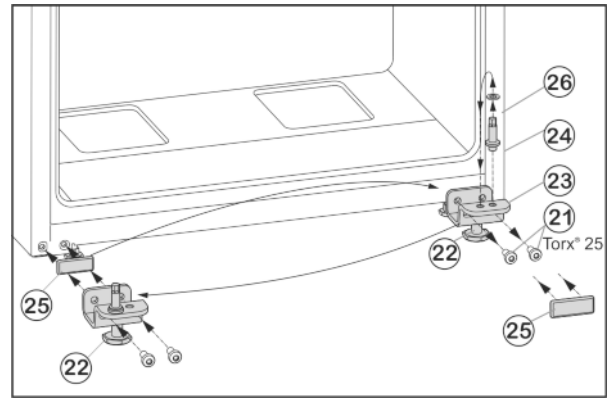

Fig. 6
- ▶ Unscrew fastening screws Fig. 6 (21).
- ▶ Remove the lower bearing block Fig. 6 (23), complete with bearing bolt Fig. 6 (24), washer Fig. 6 (26) and adjustable foot Fig. 6 (22).
- ▶ Unscrew the bearing bolt Fig. 6 (24), complete with washer Fig. 6 (26), re-locate it into the mounting hole on the opposite side of the bearing block and tighten again.
- ▶ Carefully remove the cover plate Fig. 6 (25) and re-locate it to the other side.
- ▶ Fasten the lower bearing block Fig. 6 (23), complete with bearing bolt Fig. 6 (24), washer Fig. 6 (26) and adjustable foot Fig. 6 (22) to the new hinge side, with the help of a cordless screwdriver if necessary, and **tighten (with 4 Nm)** once again.
- ▶ Lower the bottom door onto the bearing bolt Fig. 6 (24).
- ▶ Insert the centre bearing block (13) turned through 180° into the lower door and fasten firmly (**with 4 Nm**) to the new hinge side with the fastening screws (2 x Torx® 25).
- ▶ Refit plastic washer (10).
- ▶ Unscrew the adjustable foot Fig. 6 (22) on the lower bearing block Fig. 6 (23) until it reaches the floor.